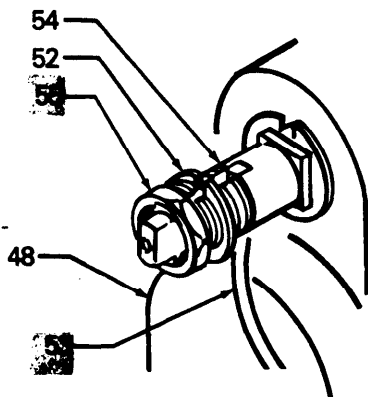

Fig 13
- Loosen the grounding lug locknut (55) and washer (52) located on the proportioning pump motor (48). Insert one end of a 12 ga (1.5 mm²) minimum ground wire (53) into the slot in the lug (54) and tighten the locknut securely. See Fig 13.